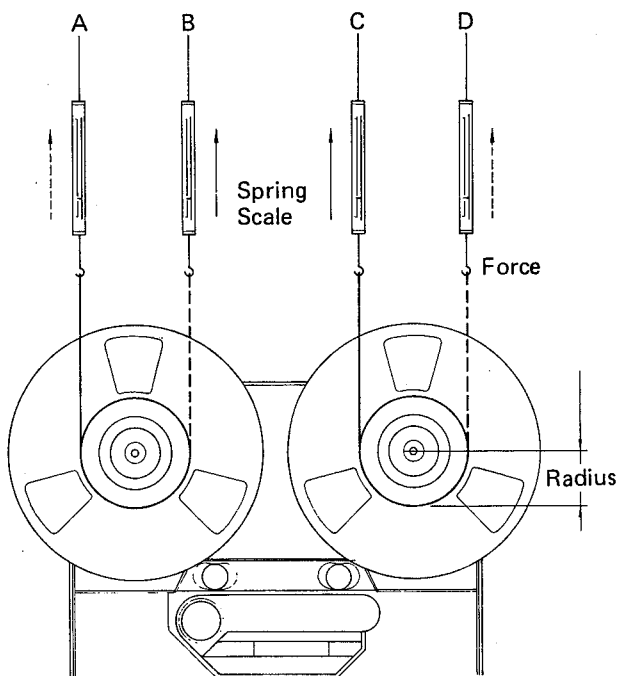

Fig. 7-13. Brake Torque Measurement
1. Mount an empty 10-1/2" reel onto either reel table and attach a spring scale to the reel with a string. See Fig. 7-13.
3. Follow steps 1 and 2 for each measuring condition; i.e., (D) through (A) in Fig. 7-13.